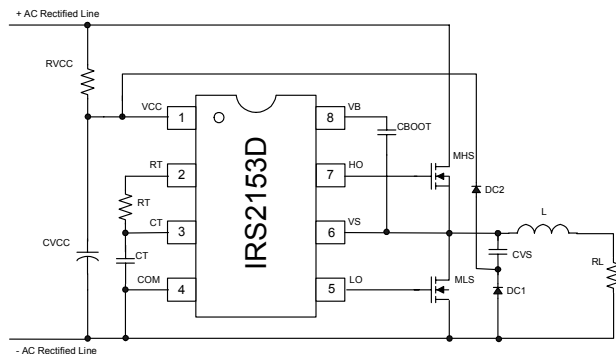

Fig. 2 Charge pump circuit
The use of a two diode charge pump made of DC1, DC2 and CVS (Fig. 2) from the half bridge (VS) is also possible however the above approach is simplest and the dissipation in R_{VCC} should not be unacceptably high.